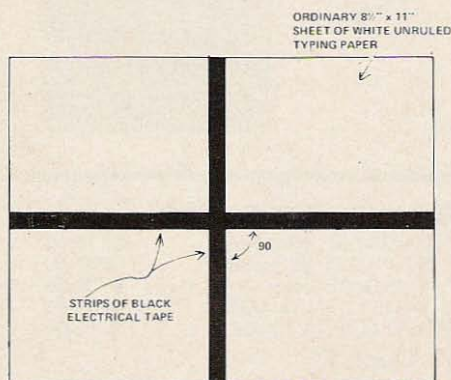

Figure 4
2. Make a simple test card by attaching ordinary black electrical tape to an 8½ x 11 in. sheet of white paper. (See Fig. 4.) Place one piece of tape horizontally across the center of the paper. Place the other piece vertically across the paper thereby forming a + pattern. This pattern is a preliminary test aid only; it is used only for initial setup adjustments.